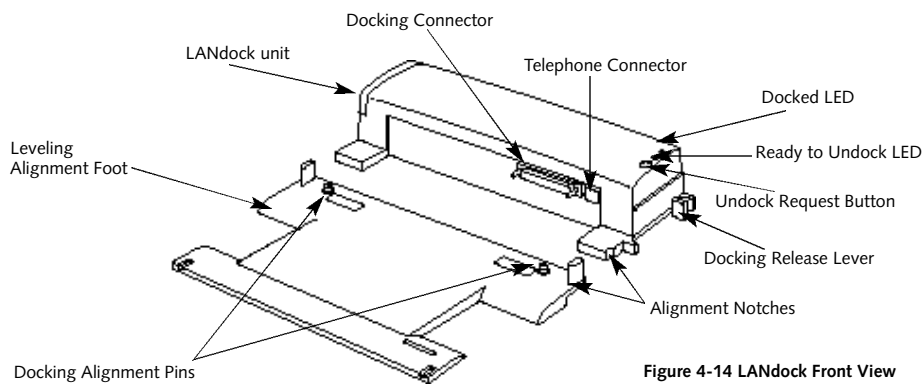

Figure 4-14 LANdock Front View
10. Verify that docking is complete by checking that the LifeBook Docked LED is illuminated. (See Figures 4-14 and 4-17.)